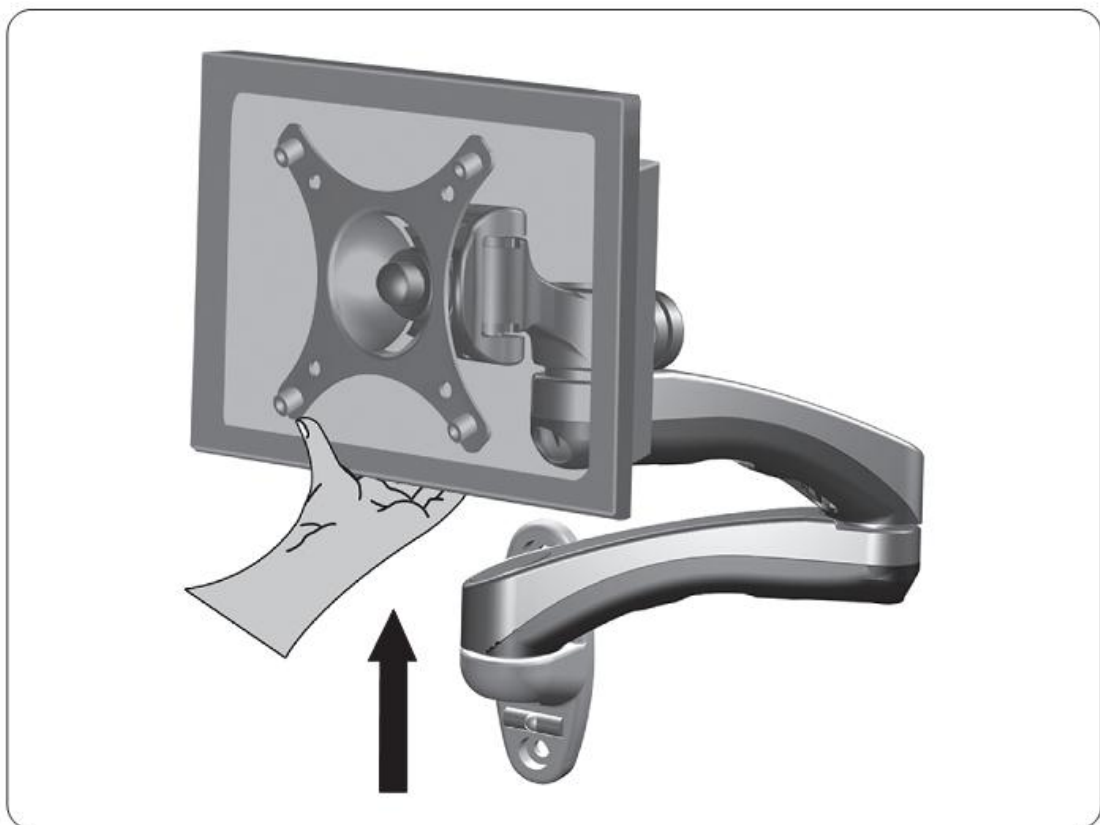

Figure 5-1
1. Support display monitor when adjusting the resistance of the Wall Mount LCD Arm Assembly (See Figure 5-1).